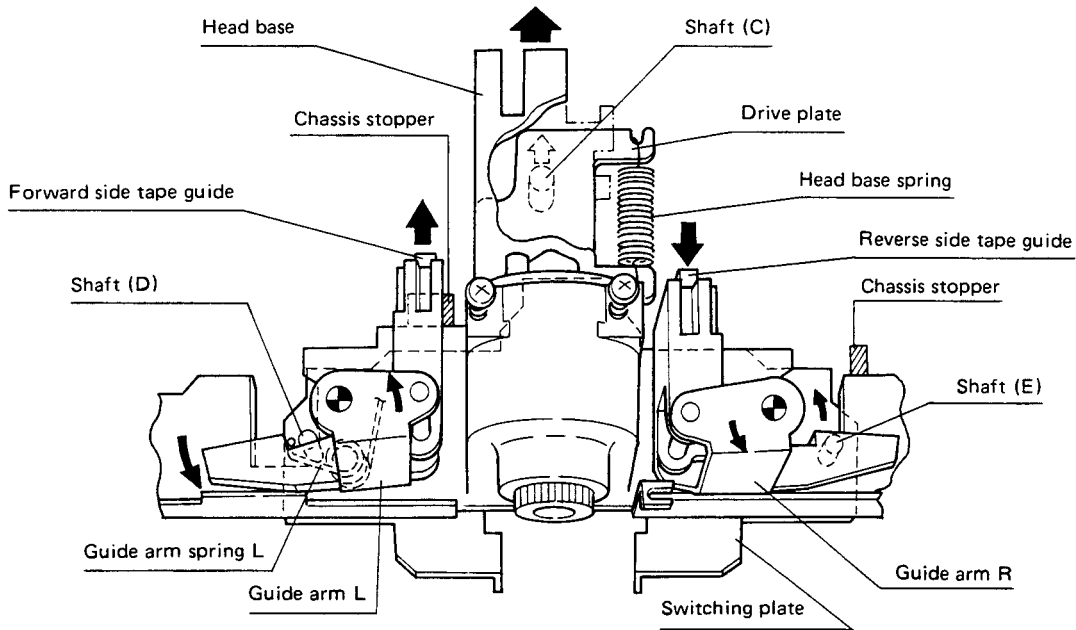
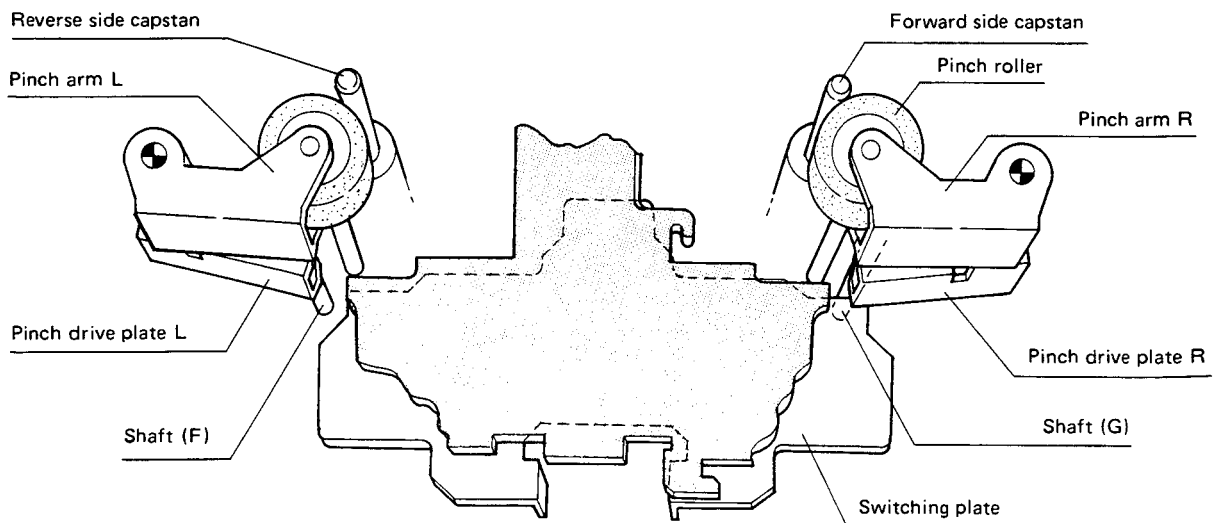

Fig. 1-6 Tape guide selection operation (forward)
Fig. 1-7 Pinch roller pressure contact operation
and lowering the tape guide on the REVERSE side to a position where it does not make contact with the tape (see Fig. 1-6). At the same time, the front edge of the switching plate pushes shaft (G) on pinch drive plate R upwards, thereby pressing the FORWARD side pinch roller against the capstan (see Fig. 1-7).
Since shaft (D) on the switching plate, on the other hand, moves upwards bypassing the bent portion of guide arm L on the FORWARD side, the FORWARD side guide puts additional pressure in the upward direction through guide arm spring L, thereby maintaining the PLAY position (see Fig. 1-6).
And since shaft (F) on pinch drive plate L does not make contact with the front edge of the switching plate in the FORWARD status, the REVERSE side pinch roller is kept away from the capstan (see Fig. 1-7).